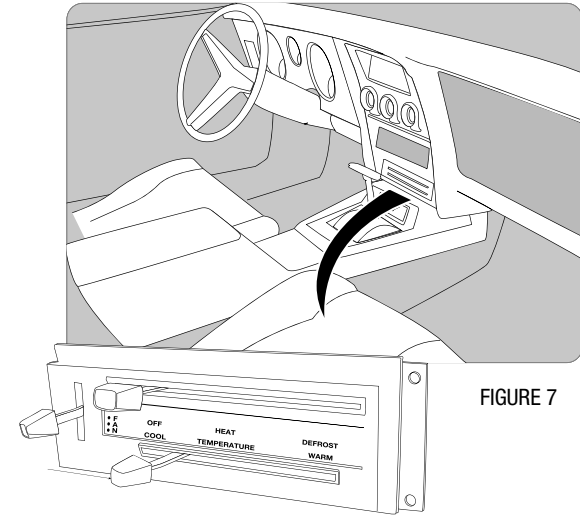

FIGURE 7
- 1) There are four OEM screws that hold your control head to the dash. Remove and retain these screws. Remove the control head assembly (see figure 7).